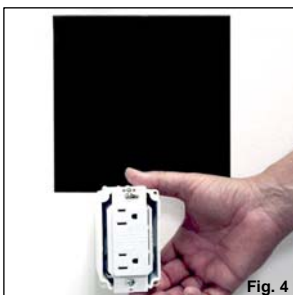

Fig. 4
- Fig. 4** Using the supplied surge suppressor, connect the Recessed Media Plate to the piece of 12/2 or 14/2 with ground UL approved building wire, using the supplied three wire nuts. Connect the hot line (black) wire to black wire, neutral (white) wire to white wire and grounding (green) wire to the (green) or bare grounding wire. For shock protection, this UR, UL recognized component receptacle must be properly grounded. Caution – use copper wire only with this receptacle. Once you have wired the surge suppressor, screw the suppressor into the work box until the receptacle is firmly secured.